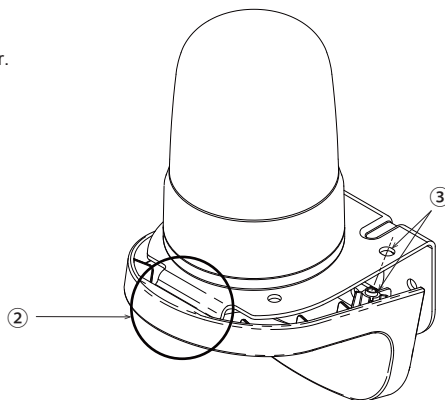

Figure 1
- ① Remove the accessories attached to the Wall Mount Bracket Cover.
- ② Insert the Wall Mount Bracket Cover into the Wall Mount Bracket as shown in Figure 1.
- ③ Align the Mounting Holes on the Wall Mount Bracket and the Wall Mount Bracket Cover.
- ④ Secure the Wall Mount Bracket Cover with the screws provided.